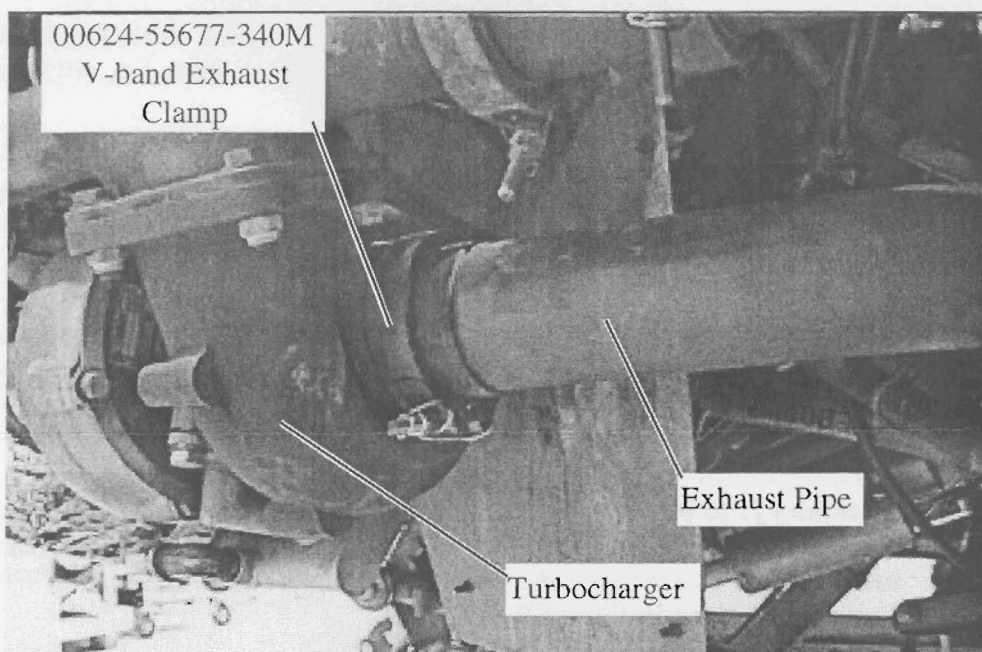

Figure 1
2. Refer to Figure 1 above. Remove the 00624-55677-340M V-band Exhaust Clamp from the aircraft.